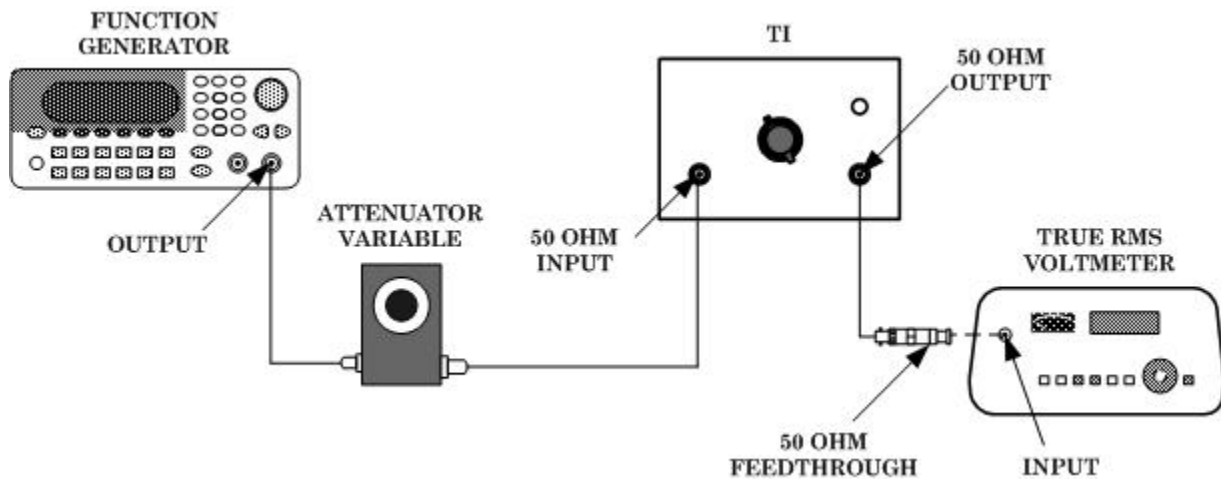

Figure 2. Low frequency response setup.
(1) Connect equipment as shown in figure 2.
(2) Set step attenuator **dB** switch to **40**.
(3) Set function generator for an output frequency of 500 kHz and adjust function generator output amplitude for true rms voltmeter indication of 0.3 V rms.